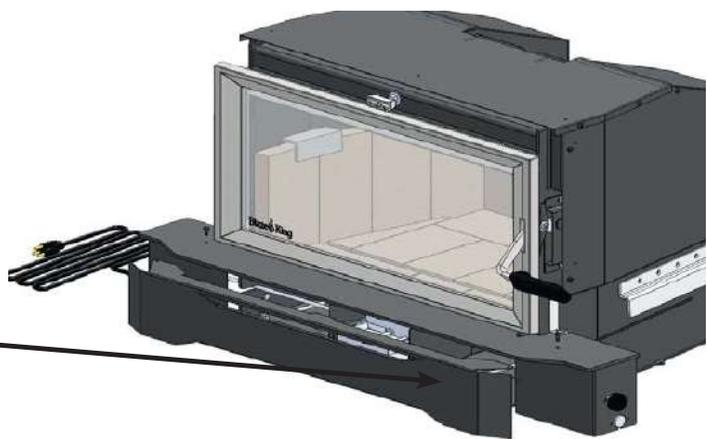

Fig. 9
- Slide lower shroud cover underneath the lower shroud shelf and fasten using a #2 Robertson screwdriver, two screws. (Fig. 9)